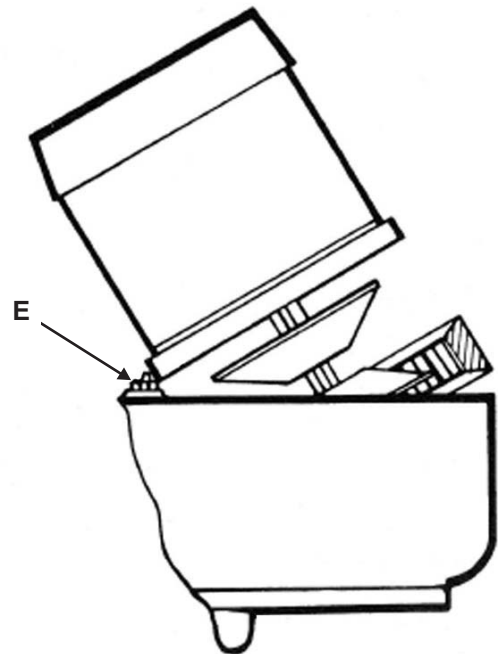

Figure 4.2 - Motor Removal:
10. Lift the motor and rest the case on stud "E", Figure 4.2.